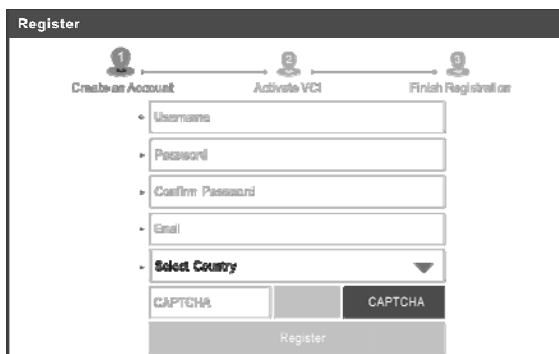

Fig. 4-3
a) Create App Account: In Fig. 4-3, fill in the information in each field (Items with * must be filled). After inputting, tap "Register", a screen similar to the following will appear: